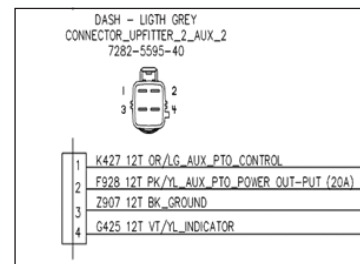

Fig. 5
5. Light Gray 4 PIN connector connection references (**Fig 5**)